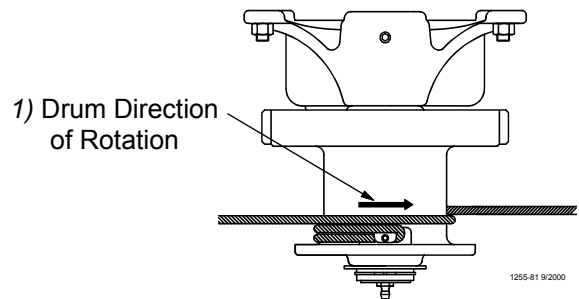

Figure 16. Power Winch Drum Rotation
5. Turn the winch drum one full revolution. Guide the cable against the flange at the bottom of the winch drum. The cable must not wrap over itself on the drum, but should be wrapped as close as possible to each previous wrap. See **Figure 16**.